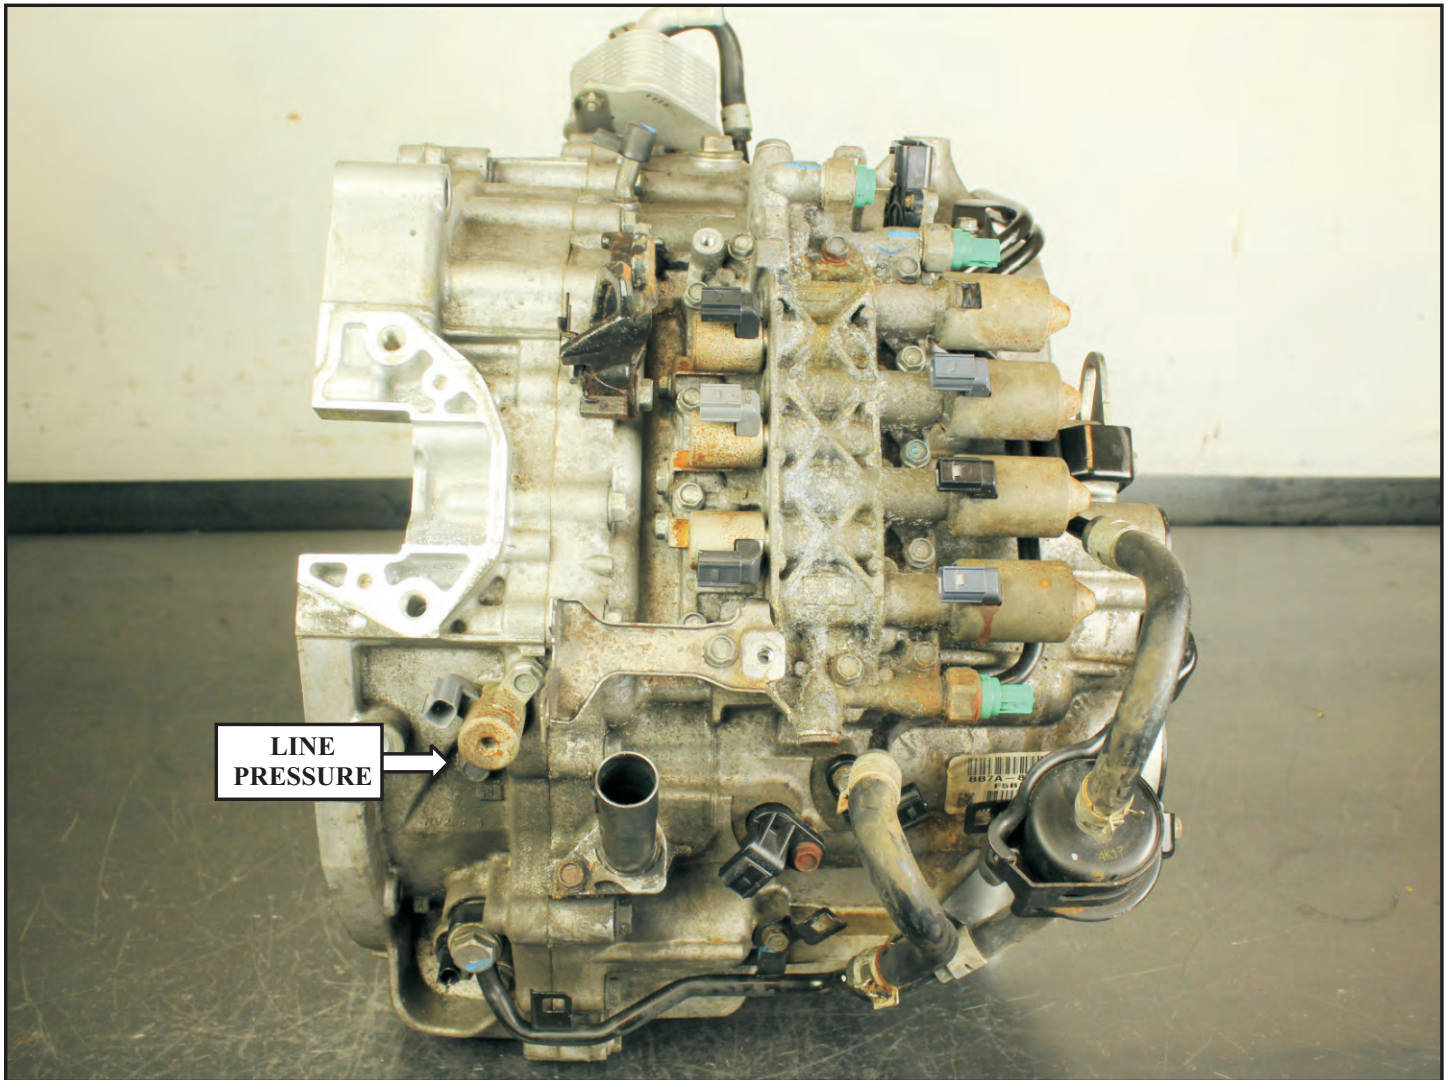

Figure 1
3. Connect a pressure gauge to the line pressure service port marked "PL" seen in figure 1.